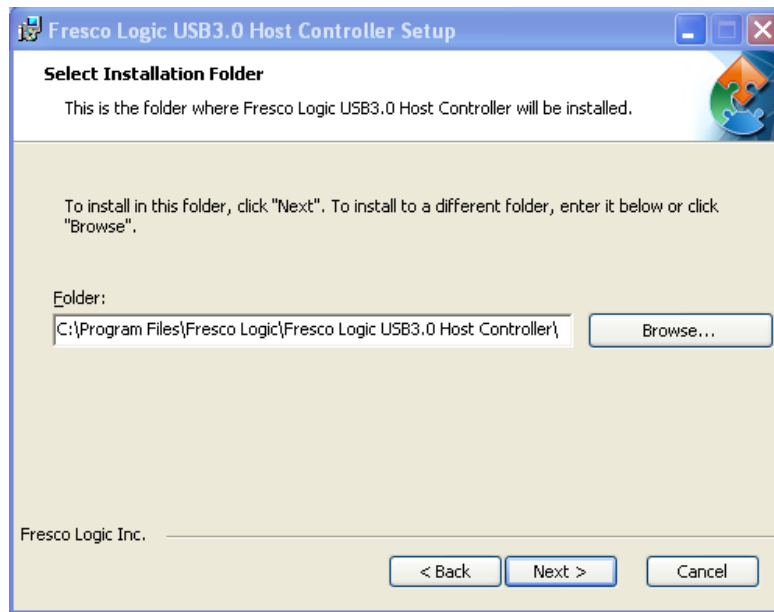

Figure 6-31: USB 3.0 Driver Choose Install Location
Step 6: Browse for an installation location or use the one suggested (**Figure 6-31**).